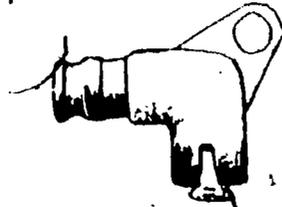

Fig 1-31. 2-inch elbow.
f. Fuel adapter assembly. The fuel adapter assembly consists of individual items of hardware (most have already been covered in this study unit), which are interchangeable throughout the system. The purpose of this assembly of items is to allow "hook up" with, or to connect your system to other fuel systems regardless of the type of equipment used. Items which are part of the assembly that have not been mentioned consist of various elbows and flanges that help make connection to the fuel source. The pipe-to-hose adapter is the actual link to the fuel source. The 2-inch elbow (fig 1-31) is used for the small amphibious ship over-the-beach unloading operation. Properly secured, this elbow will prevent chafing and pinching during the shuttlecraft loading operation.